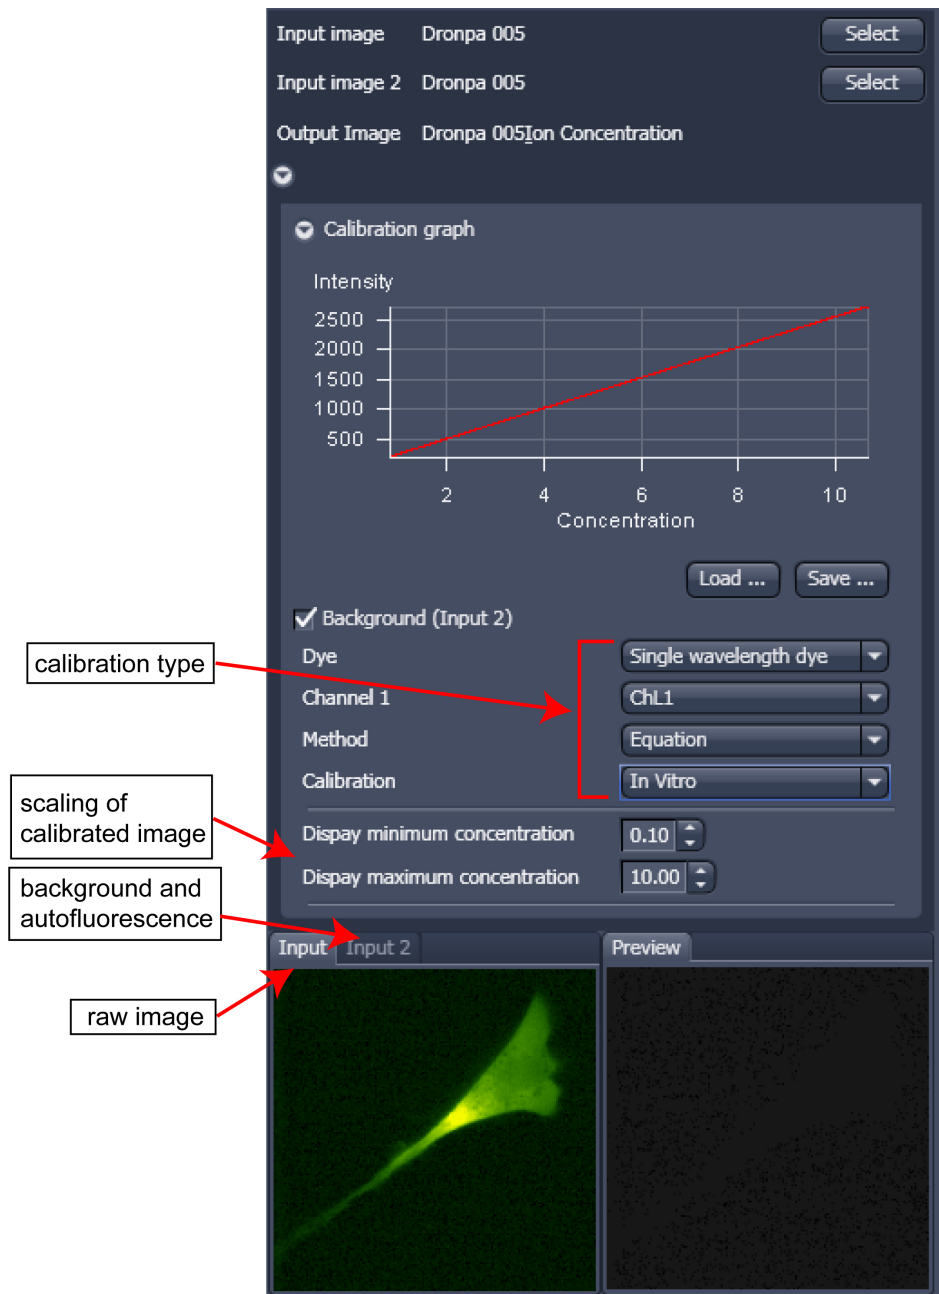

Fig. 397 Ion concentration panel
- Subtract background/autofluorescence image from raw images to obtain better raw data to start with (Fig. 397).